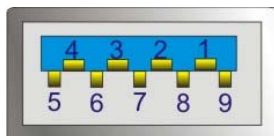

Figure 3-20: USB 3.0 Port Pinout Locations
- CN Pinouts:** See **Table 3-7** and **Figure 3-20**